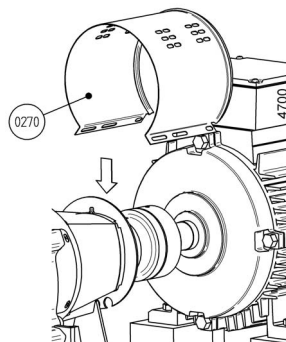

figure 17: *Fitting jacket at motor side.*
- 2 Remove both jackets (0270). See figure 17.